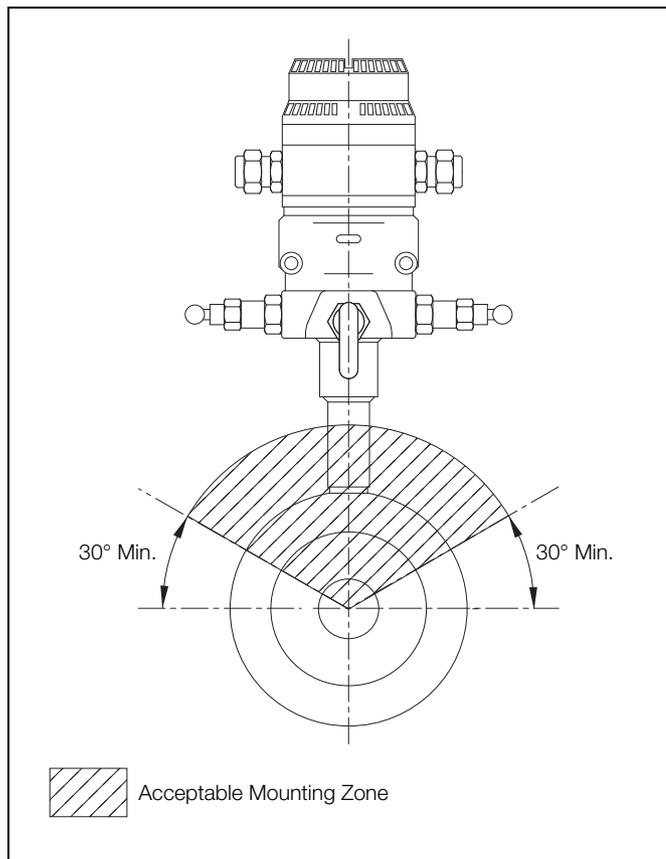

Fig. 2.3 Horizontal Pipe Mounting – Gas
To ensure that condensate drains back into the pipe, mount the meter **above** the pipe, at least 30 degrees above the horizontal – see Fig. 2.3.
- b. The meter is oriented correctly depending on the type of installation – see Figs. 2.3, 2.4, 2.5 and 2.6.
- for horizontal pipe mounting – gas, refer to Fig. 2.3.